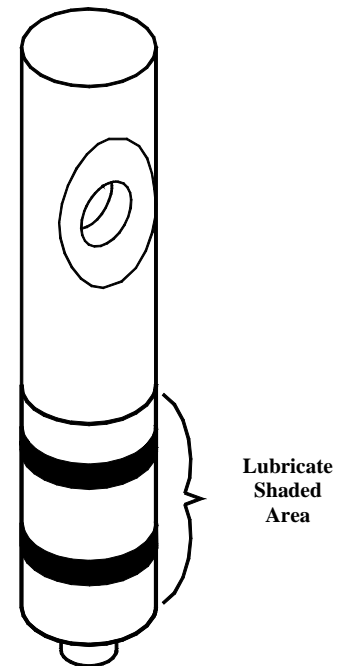

Fig. 14
a. Install the two o-rings on the spigot plunger by rolling them onto the plunger. Seat the o-rings in the grooves ensuring that they are not twisted. Smooth the lubricant into the grooves and over the sides of the plunger assembly (Fig. 14).